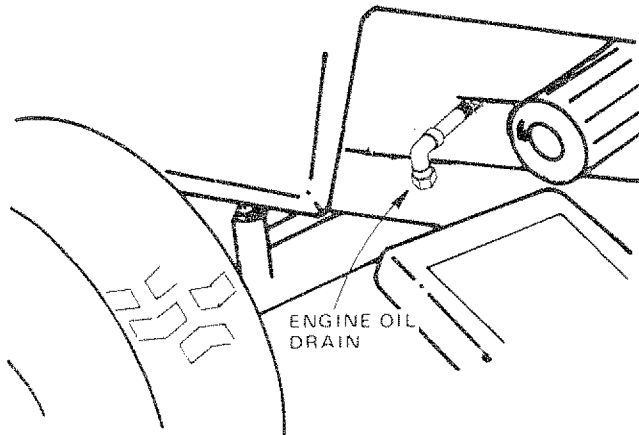

FIGURE 20
- b. Loosen oil drain wing nut (Fig. 20) and remove dipstick.